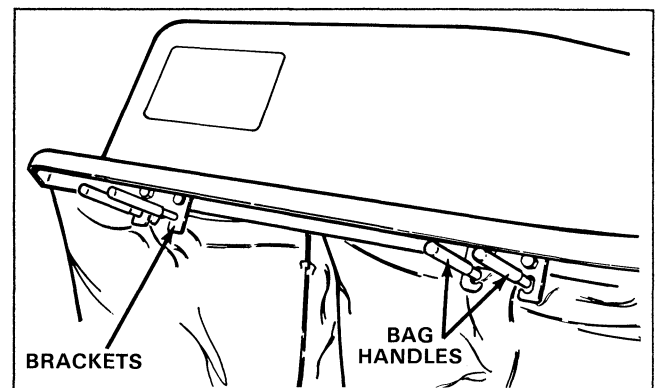

Figure 6
2. Lift rear of bag up to bag cover.. Squeeze bag handles, allowing them to be positioned in bag frame brackets. Release bag handles, locking them in brackets (Fig.6)